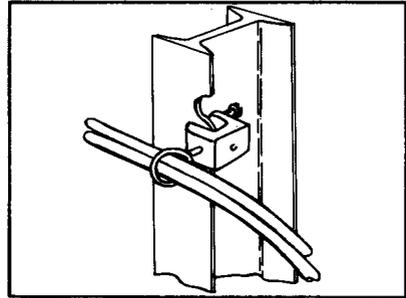

FIGURE 4. Beam Clamp
**6.01 Beam Clamp (Figure 4):** The beam clamp, equipped with an A, K, or M bridle ring, is used to support wire runs on I beams, angle irons, etc., on beam thickness up to 3/4 inch.